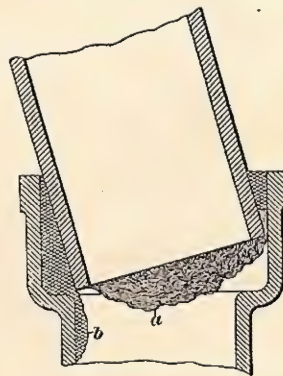

FIG. 15
15. The crooked joint shown in Fig. 15 is a common defect due to carelessness, and should be condemned on general principles. The work should be rearranged and a proper joint made; if the crooked joint is due to a defective fitting, a good one should be substituted. In a crooked joint, the oakum is liable to be driven through, as shown at *a*, and the lead is liable to run through, as at *b*, owing to the difficulty of introducing the oakum into the base of the socket.